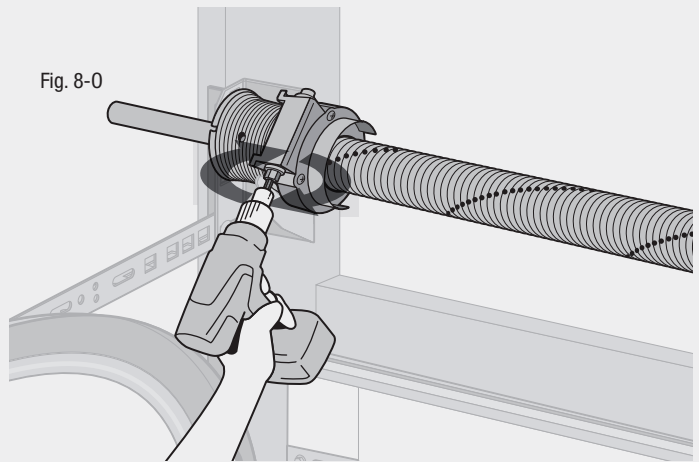

Fig. 8-0
- Using half speed, wind the spring a total of 11-1/4 winds for a 7' tall door. The line on the spring will create a striping effect. Each stripe represents one full turn on spring. Count the number of stripes to determine how many winds you have made on the spring (Fig. 8-0).